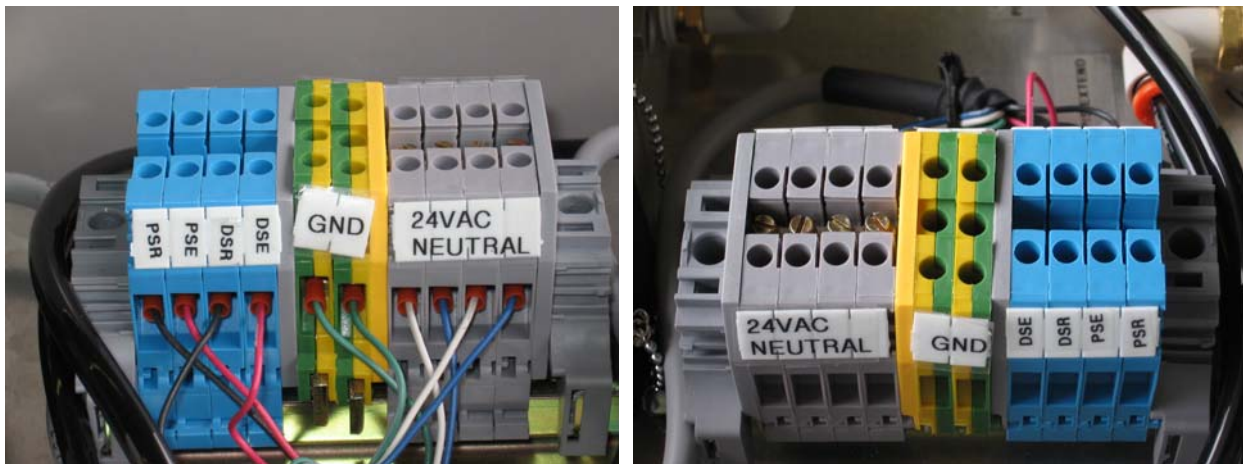

Figure 1-29. Terminal Block Assembly Inside the Control Box
59. Bring-in eight functions as shown in figure 1-29: